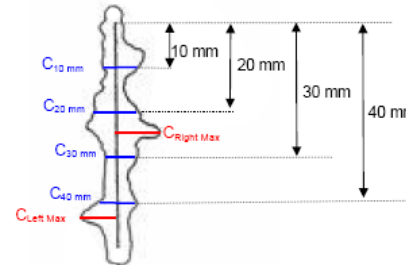

Figure D1: Scribe Creepback Measurement Illustration
1. First, scribe should be measured in millimeters using the "zero to peak + zero to peak" technique as illustrated (refer to red line and text) in Figure D1.
2. Second, scribe creepback should be measured across the scribe line in 10 millimeters increments from the top of the scribe line as illustrated (refer to blue lines and text) in Figure D1